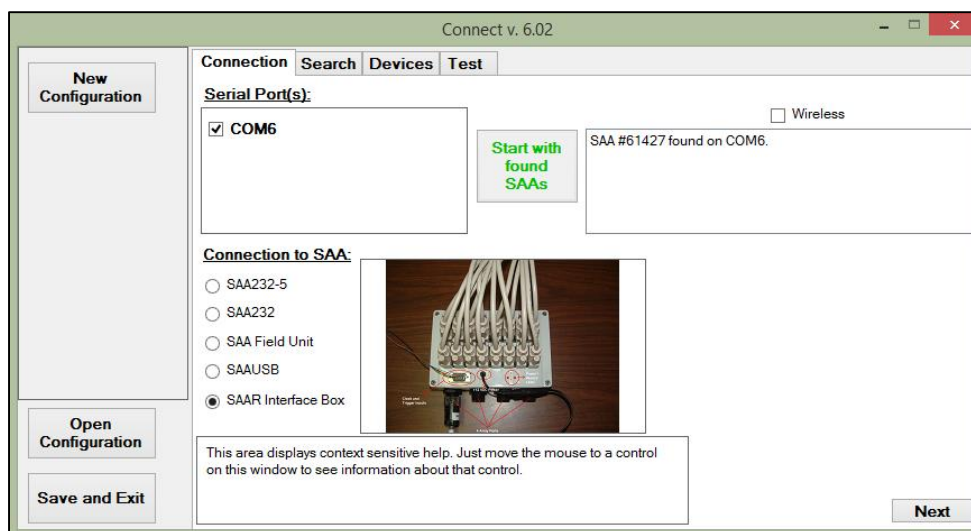

Figure F- 4: SAARRecorder 'Connection' window with the SAAR Interface Box selected.
5. The box shown in **Figure 6.2** will pop-up. Click 'Connect SAA' and the following window, see **Figure F- 4** below, will appear.